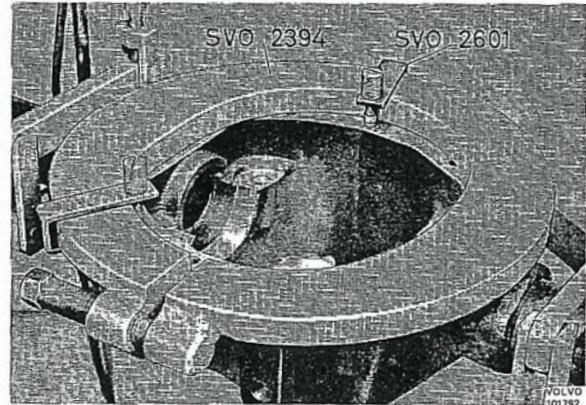

Fig. 4-136. Expanding drive pinion carrier
6. Fit tool 2394 in the holes in the drive pinion carrier as shown in Fig. 4-136. Fit the tool with retainers 2601. Tension the tool until it fits exactly in the holes in the carrier. Then tension the bolt a further 3–3 1/2 turns. Lift out the differential carrier with crown wheel. Tool 2337 can be used for this purpose.